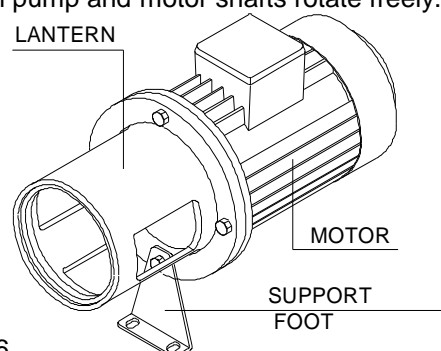
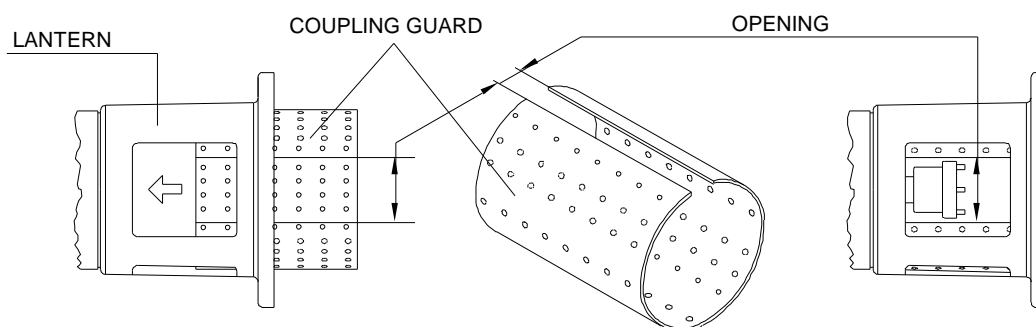

Fig. 6
Fig. 7 - PREPARING TO ASSEMBLE THE MONOBLOCK DESIGN
- 2 - Insert the perforated metal sheet coupling guard inside the lantern so that the coupling is accessible from one of the lateral openings. Couple the electric motor to the pump lantern engaging the two coupling halves, hands may reach the coupling halves through the lateral opening (see fig. 7) tighten the assembly with bolts supplied with the unit and install the supporting foot, when applicable (see fig. 6).